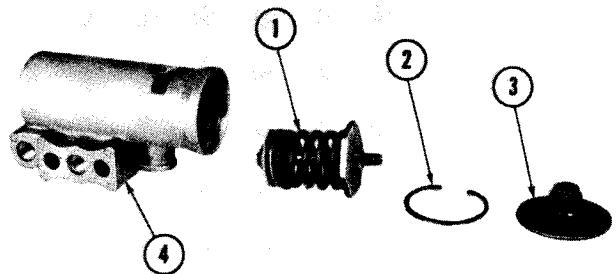

Figure 13-14
Insert the adjusting screw and spring assembly (1, Fig. 13-14) into the governor body (4). Install the retaining ring (2) with a snap ring pliers. Screw the cover (3) in place.